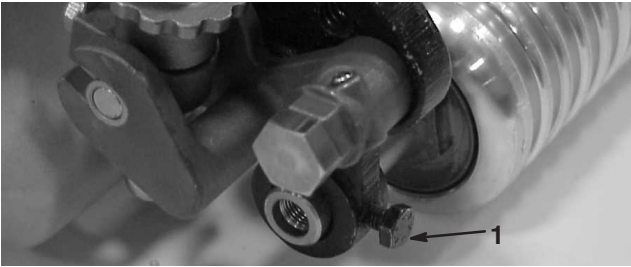

Figure 13
21. Insert the roller shaft into the height-of-cut arm and loosely secure with a M6 capscrew (Fig. 13). Do not install belt and cover at this time.